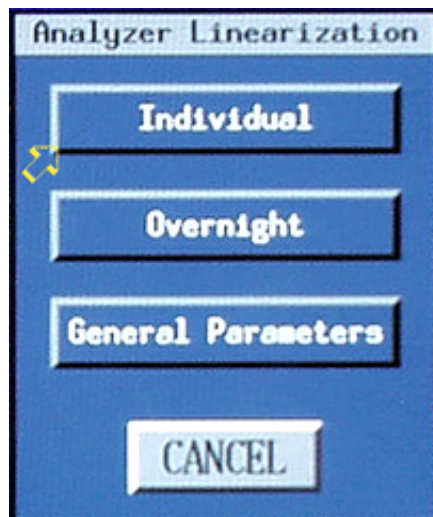

Figure 26
- 133 On the “Analyzer Linearization” panel, click on the “Individual” button. See the arrow in Figure 26.